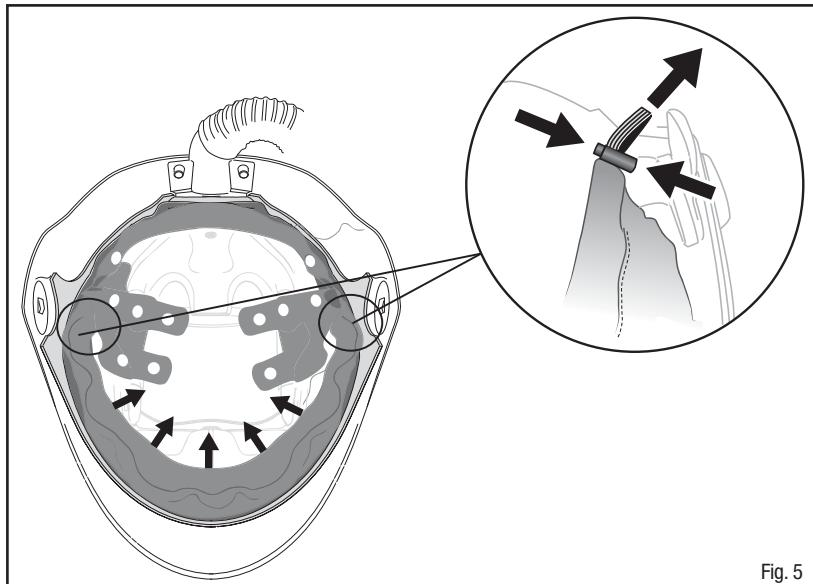

Fig. 5
5. With the welding helmet on the head, grasp the faceseal and pull the faceseal over the chin and around the face. By pressing the barrel clip and pulling gently on the drawstring, adjust the faceseal until a comfortable fit is achieved (Fig. 5). There should be minimal gaps around the face and faceseal interface when the faceseal is adjusted appropriately.